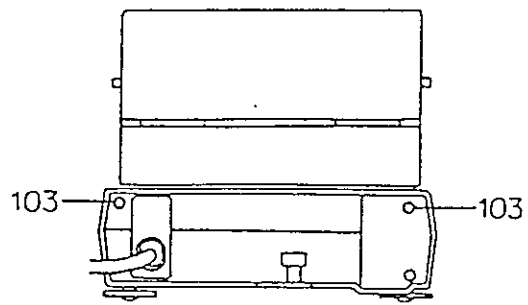

Fig. 4
2. Remove the weighing pan support (1).
3. Remove the weighing pan support holder (2).
4. Remove the weighing pan cover (3).
6. Unscrew screws 103 from the back panel of the unit (See Fig. 4).